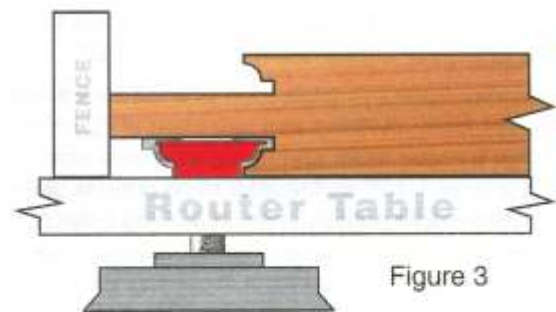

Figure 3
c) Completing the cuts for the long tenons (Figure 3):